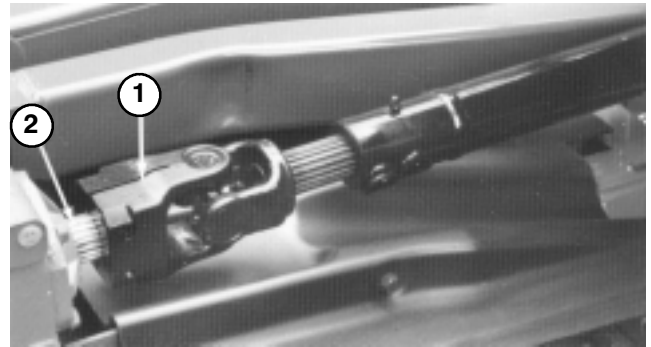

Figure 65
5. Remove socket head screws securing drive shaft yoke gear box input shaft. Slide yoke off shaft (Fig. 65).